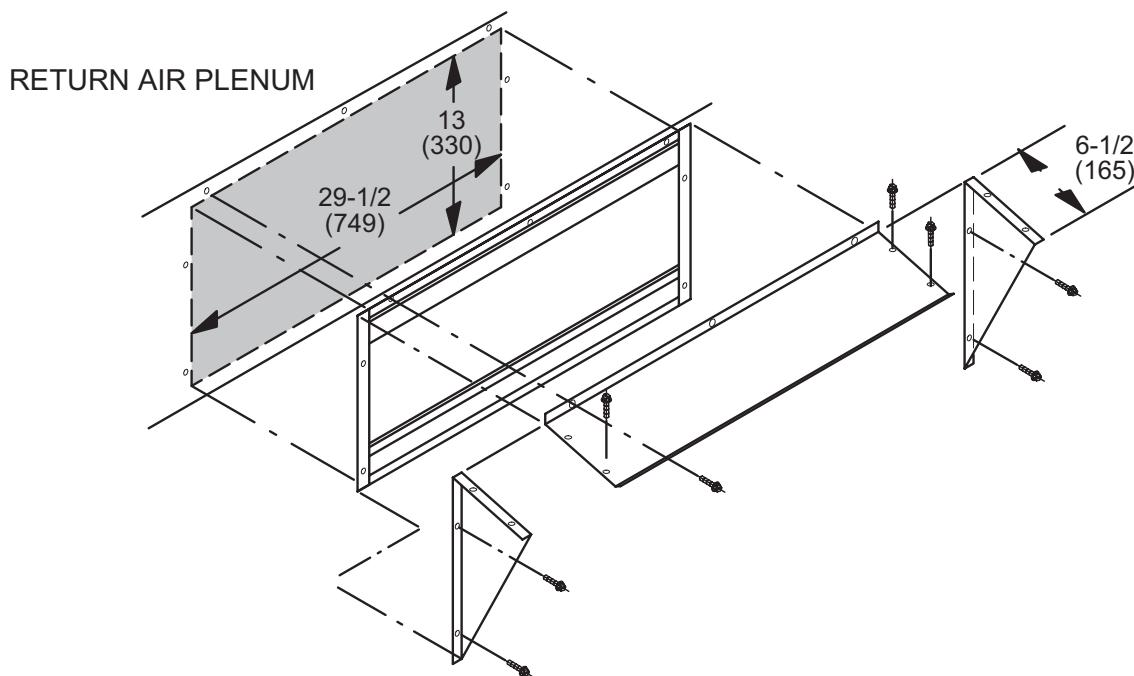

FIGURE 11
For horizontal applications, a separately ordered horizontal discharge kit is required. The horizontal, field-fabricated return air duct must be sized to accommodate the gravity exhaust damper and hood shipped with the economizer. A separately ordered low profile gravity exhaust damper (LAGEDH) and hood kit is available for size restricted applications. See FIGURE 11.
- 2 - Secure hood sides to hood top as shown in figure 11.
- 5 - Slide combined damper assembly into plenum opening and secure using screws provided. See FIGURE 11.